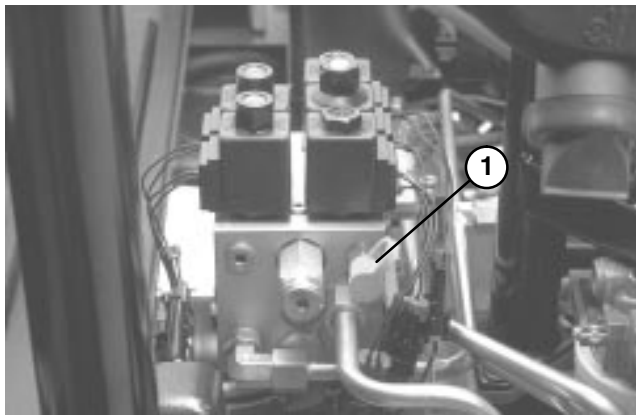

Figure 53
2. Test Port “B” (Fig. 53) is used to assist in trouble shooting the hydraulic circuit for the rear cutting units.